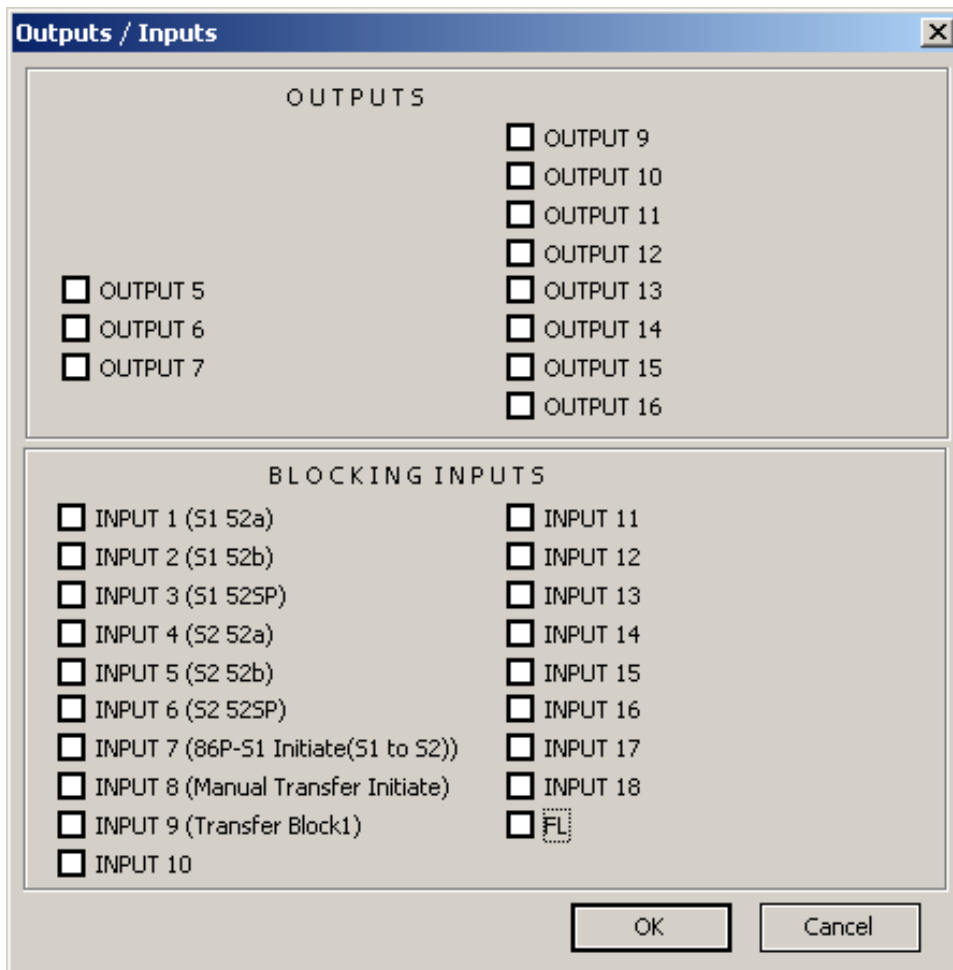

Figure 4-68 27B#1 Bus Phase Undervoltage Transfer Initiate Inputs/Outputs Selection Dialog Screen
**I/O Selection** — The I/O Selection button opens the 27B#1 Bus Phase Undervoltage Transfer Initiate Inputs/Outputs Selection Dialog Screen (Figure 4-68) that allows any input or the Fuse Loss (FL) function to be selected to block the 27B#1 function. The 27B#1 function can also be used to activate a selected output when it times out.